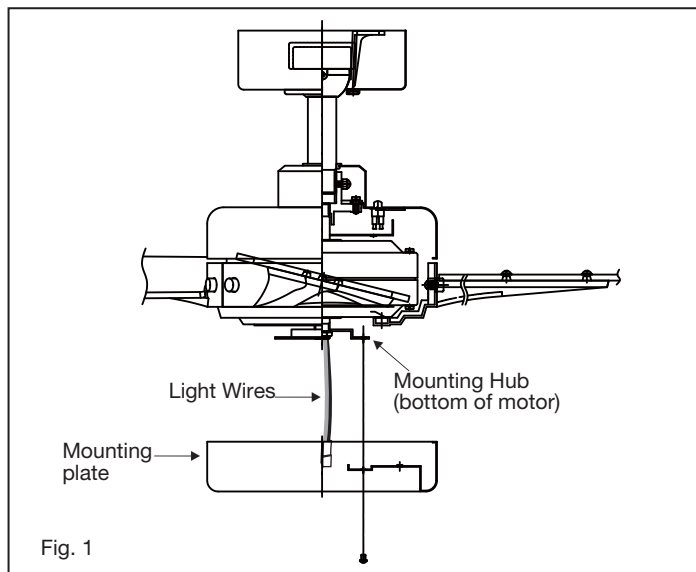

Fig. 1
- 1 Remove ball from downrod by loosening set screw in the side of the ball. Slide ball down and remove ball pin; remove ball. (Fig. 1)
- 3 **NOTE:** The Remote Control System is equipped with 16 possible frequency combinations to prevent interference from or with other remote control units. The frequency switches on your receiver and transmitter have been preset at the factory. Please recheck to make sure the switches on transmitter and receiver are set to the same position. Please recheck to make sure the switches on transmitter and receiver are set to the same position, any combination of settings will operate the fan as long as the transmitter and receiver are set to the same position. (Fig. 1)
- 1 Remove one of the three screws on the mounting hub located on the fan motor. Loosen the other 2 screws. (Do not remove) (Fig. 1)
- 1 Remove the existing wall plate and the old switch from the wall outlet box. Wire nut the BLACK leads (hot) together and push back inside the outlet box. (Fig. 1)
- 2 Remove the face plate of the Wall Switch by lifting at the top and then insert the supplied 12V battery. Duracell MN21/Eveready A23/GP 23A all 12V. (Fig. 1)